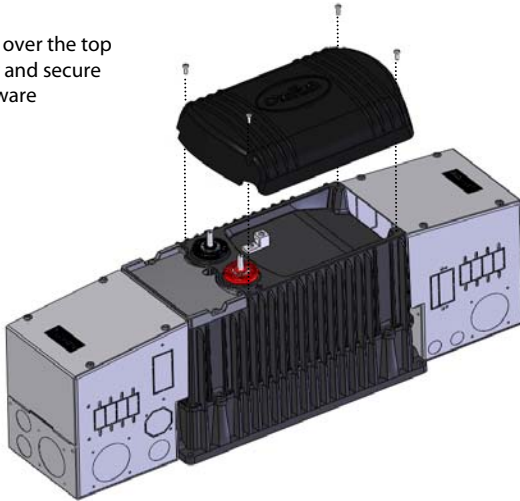

Figure 9 Attaching the Inverter Top Cover
5. After all wiring has been completed, install the FX Inverter's DC Cover (DCC) or Turbo cover. (The use of a DCC or Turbo will depend on model. Please install the appropriate part based on that model's instructions.) Secure with four M5 × 12mm screws. Torque to 18 in-lb (2.03 Nm). See Figure 9.